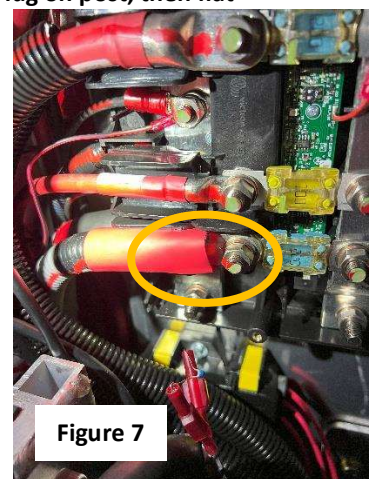

Figure 7
15. Reinstall the leads to the Lynx distribution block per their new marked polarity (opposite of original polarity): black heat shrunk cable to negative first, then cable isolator, then red heat shrunk cable to positive. See figure 7. **When reinstalling, it is critical to ensure the washer stack is as follows: cable lug on post, then flat washer, then lock washer, then nut.** Torque the nuts to **14Nm (10.3 ft-lbs)**